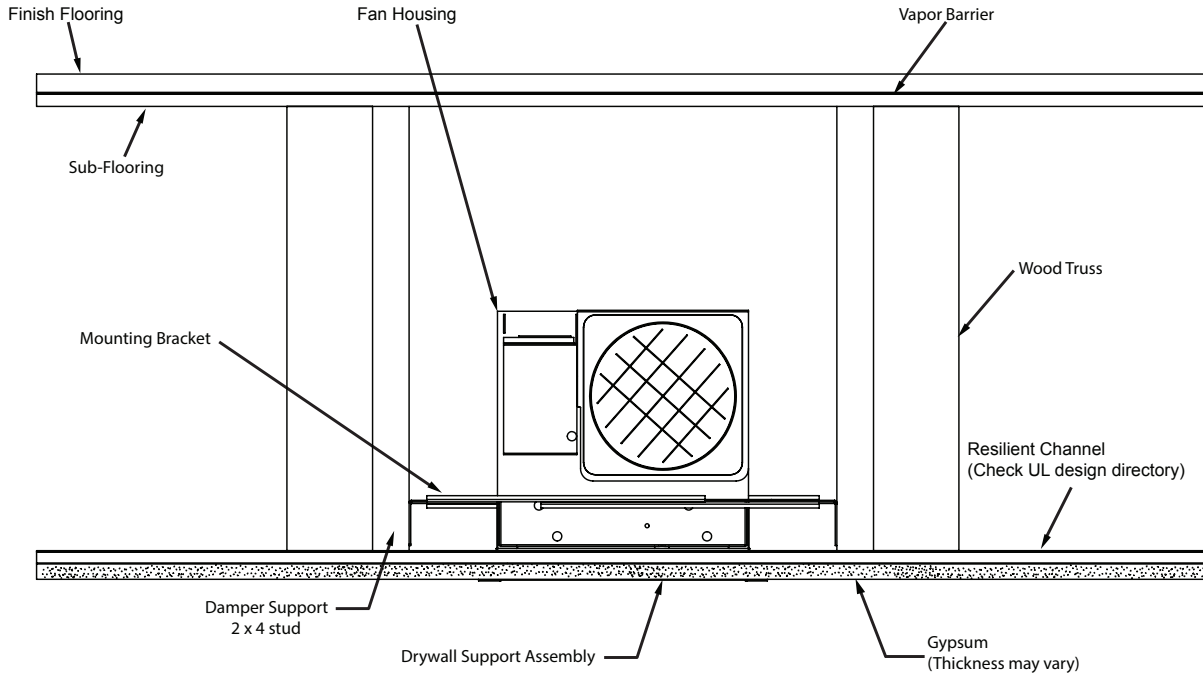
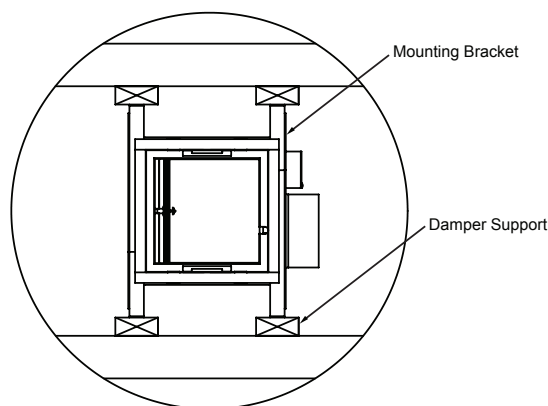

Figure 1
Figure 5
3. Prior to installing the damper/fan, damper supports need to be installed in the ceiling assembly (See Figure 1 and Figure 5). Four damper supports made from 2x4's cut to the truss height need to be installed, centered around the damper/fan location. The damper supports need to be spaced 11-9/16" (294) on center. The bottom of the damper supports must be flush with the bottom of